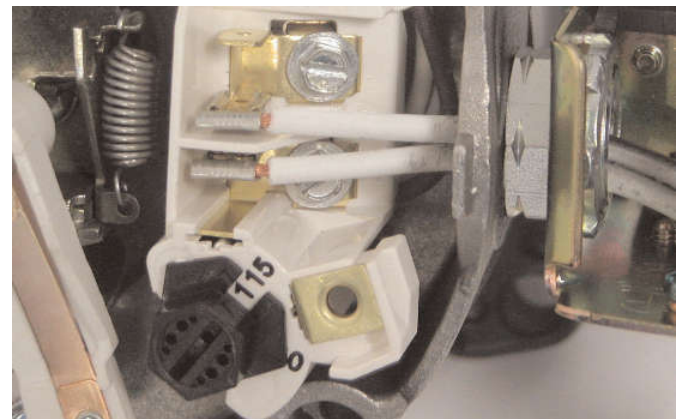

Figure 9: Voltage set to 115 volts, Dial Type
2. Turn the dial counter-clockwise until 115 shows in the dial window as shown in Figure 9.